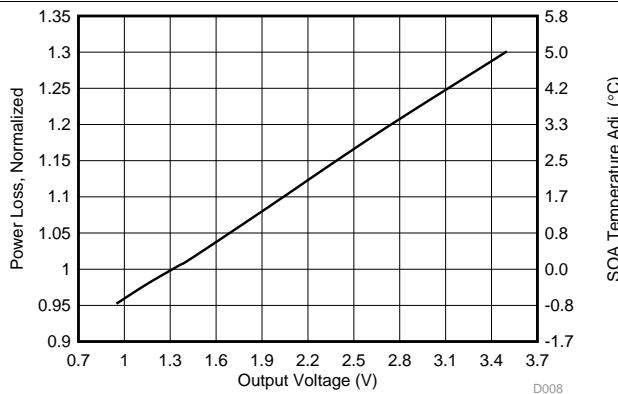

Figure 7. Normalized Power Loss vs Output Voltage
- Normalized power loss for output voltage ≈ 1.01 (Figure 7)
- SOA adjustment for output voltage ≈ 0.17°C (Figure 7)